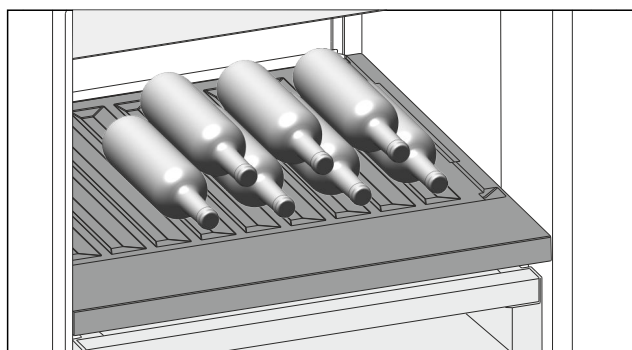

Fig. 215 Example illustration
- Place bottles in the back row with their bases against the back wall. (see Fig. 215)